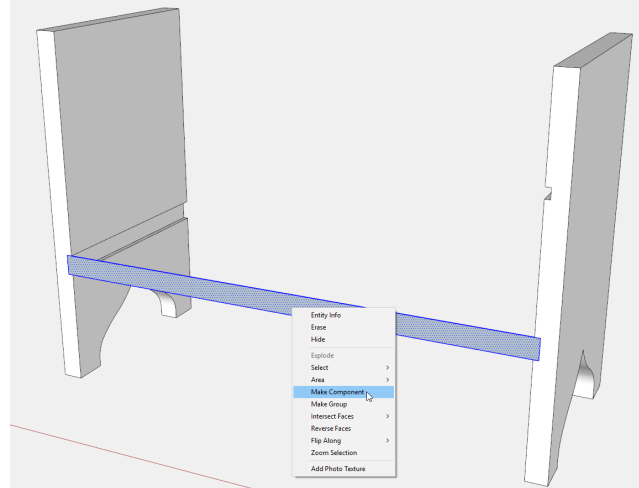

Figure 12. Draw the edge face of the Bottom and make it a component.
Step 5 Use the Line or Rectangle Tool to create an edge face for the Bottom. Double click on the rectangle, then right click, and choose Make Component from the menu. Shown in Figure 12. Name the component Bottom.